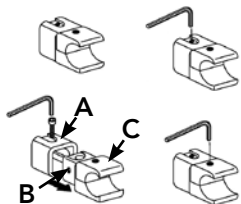

Fig 2
1. Mark bracket positions as per **Fig. 2**, measure the width (X) of the towel rail less 50mm and the height (Y) of the towel rail less 150mm (behind the 3rd cross tube from top and from bottom) to find your four fixing positions for the Wall sleeves.